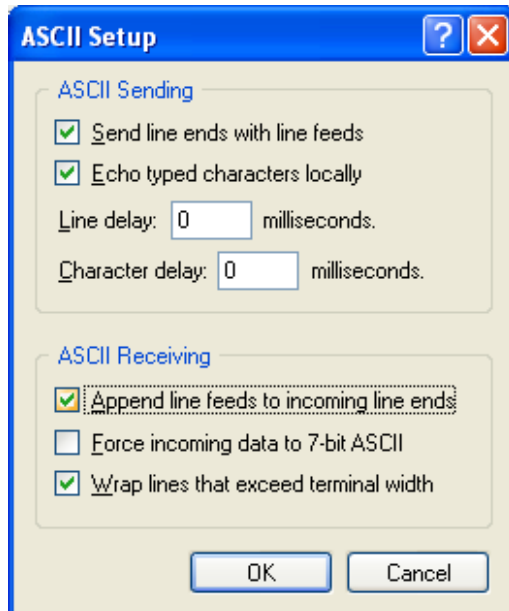

Figure 18: ASCII Setup Screen
Step 7: Set up all columns in the ASCII Setup screen as shown in Figure 18. Click OK and HyperTerminal setup is completed.